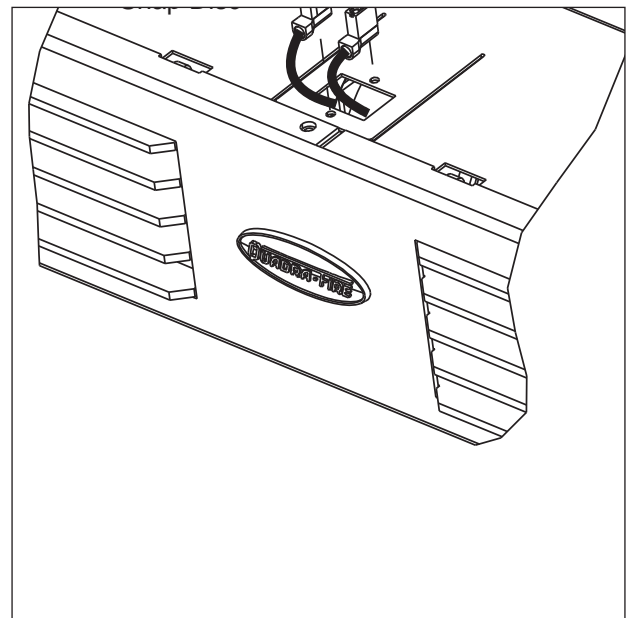

Figure 23.3
3. Pull the snap disc and spade connectors up and out of bracket as shown in **Figure 23.3.**